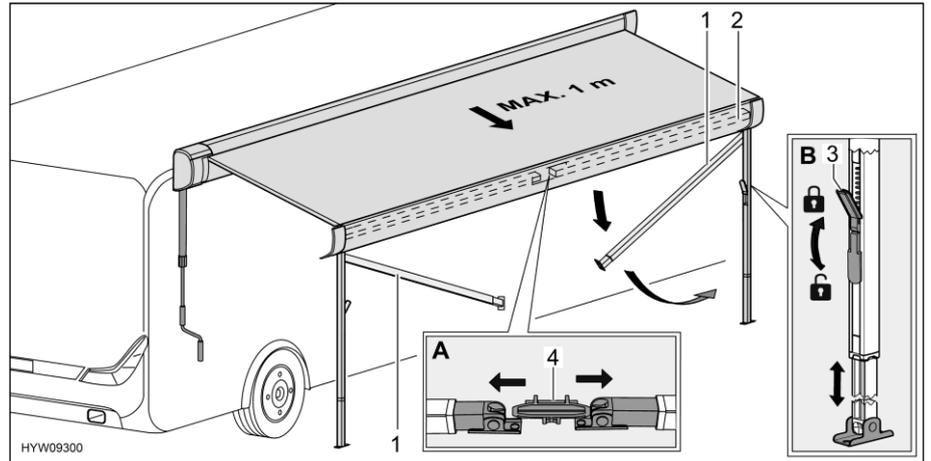

Fig. 30 Preparing support legs
- Release support legs (Fig. 30,1) from holder (Fig. 30,4) in the front bar (Fig. 30,2). In order to do this, apply slight outward pressure on the support legs (Fig. 30,A).
- Release the locks (Fig. 30,3) of the support legs. In order to do this, fold the catch lever downwards.
- Pull lower part of the support legs out to the desired length (Fig. 30,B).
- Close the locks (Fig. 30,3) of the support legs. In order to do this, fold the catch lever upwards.